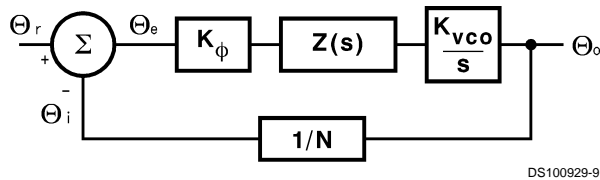
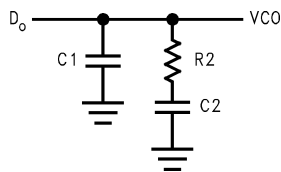

FIGURE 2. PLL Linear Model
FIGURE 3. Passive Loop Filter
A linear control system model of the phase feedback for a PLL in the locked state is shown in Figure 2. The open loop gain is the product of the phase comparator gain (K_ϕ), the VCO gain (K_{VCO}/s), and the loop filter gain $Z(s)$ divided by the gain of the feedback counter modulus (N). The passive loop filter configuration used is displayed in Figure 3, while the complex impedance of the filter is given in Equation (2).